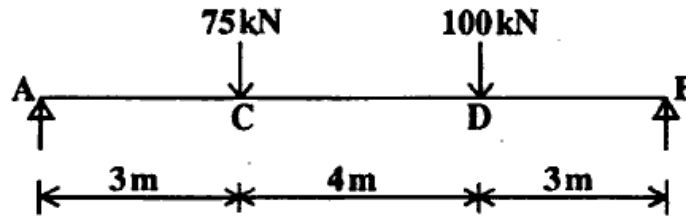

fig. Q. 12 (a)
12. (a) A simply supported beam of span 10 m carries loads as shown in fig. Q. 12 (a). Determine the deflection under each load using Macauley's method. Take  $I = 12 \times 10^8 \text{ mm}^4$  and  $E = 2 \times 10^5 \text{ N/mm}^2$ .